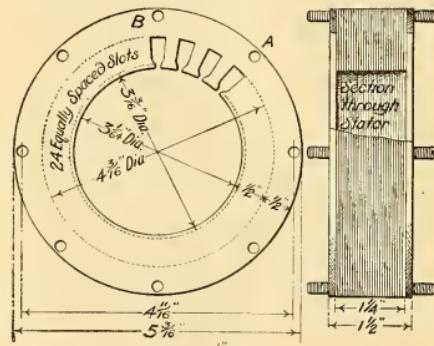

Fig. 1. Stator of Motor
The stator, Fig. 1, is constructed of a number of laminae securely clamped together and having slots for the winding around the inner periphery. The material for the stator laminae is No. 29 sheet steel. Cut enough $5\frac{3}{4}$ inch disks of sheet steel to make a stack $1\frac{1}{4}$ inches thick when tightly compressed. Then get two disks of $\frac{1}{8}$ inch iron, having the same diameter and clamp the disks for the laminae between them. Inscribe a $4\frac{1}{16}$ inch circle on the top disk and divide its circumference into eight equal parts. This is to locate the eight holes (A) and (B), etc., which are drilled with a $\frac{1}{16}$ inch drill. The holes (B) should be counter bored on both the top and bottom plates. Procure eight $\frac{1}{16}$ inch rods each four inches long and thread each end. Put these rods through the holes in the disks and turn a nut on each end allowing the rod to project equal distances on each side of the core.
Using the same centre that was used in locating the holes (A) and (B), Fig. 1, inscribe two circles on the top disk, one $3\frac{29}{32}$ inches in diameter, and the other $3\frac{6}{16}$ inches in diameter. Divide the larger circle into 24 equally spaced parts and at these points draw radii to the centre. Around the outer circle drill 24 $\frac{3}{16}$ inch holes and at the points located on the inner circle drill 24 $\frac{1}{16}$ inch holes. There will then be 24 pairs of holes
The stator iron is clamped to the lathe faceplate by means of the rods through the holes (A), (B), etc., Fig. 1. The rods are inserted through the slots in the faceplate and a washer and a nut are turned on each rod. The outside is turned down to a diameter of $5\frac{1}{16}$ inches and the center bored out to $3\frac{1}{64}$ inches in diameter. The slots should be filled with pieces of wood before the center is bored out, to prevent the tool from tearing up the teeth. The iron over the teeth is cut away by boring the heavy end plates to a diameter of $4\frac{3}{8}$ inches. Next remove the stator from the lathe and cut off the rods (B) on both sides of the core and rivet them down closely. They should come flush with the surface, since the holes were counter bored. The slots are opened by a $\frac{3}{32}$ inch saw cut made with two or three hack saw blades mounted side by side in the frame. The stator will then appear as in Fig. 1.